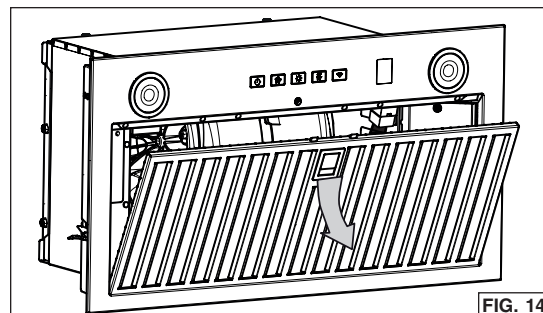

FIG. 14
2. Remove the grease filter by pushing down on latch tab and tilting the filter downward (FIG. 14). Set aside the filter.